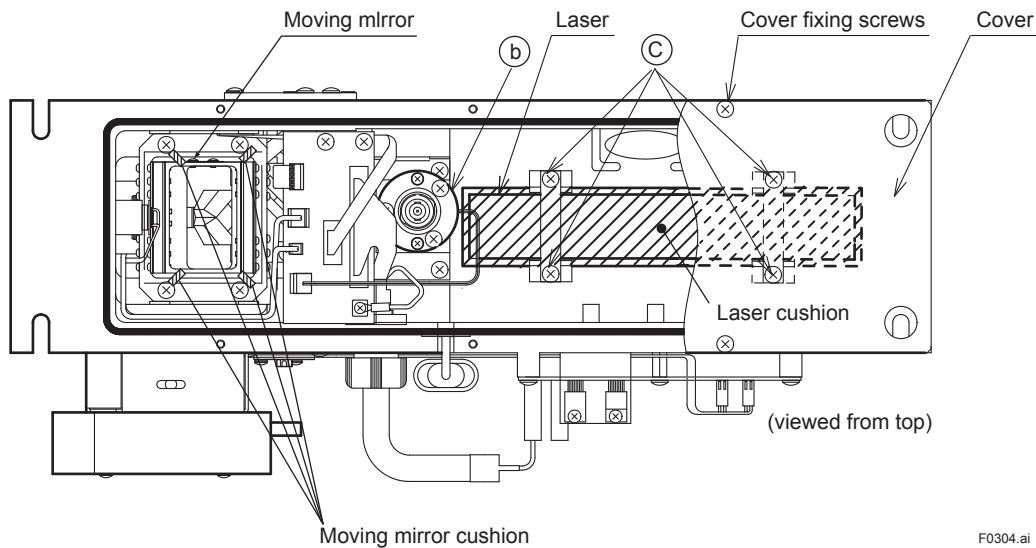

Figure 3.4 Cushions in the spectrometer
Remove spectrometer cover fixing screws (6 pieces) and open the cover. Remove a laser cushion and moving mirror cushions (4 pieces) as shown in Figure 3.4. Keep the cushions because they are re-used when transporting the unit.
(2) Adjusting the Laser position
- Loosen four screws (as shown c in Figure 3.4).